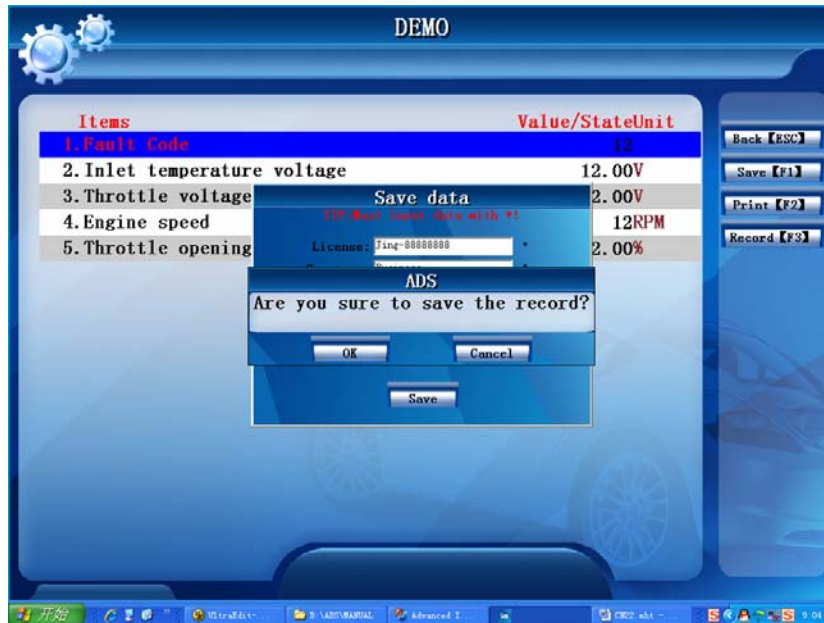

Figure-20
20. Click “Save”, and appears figure-20